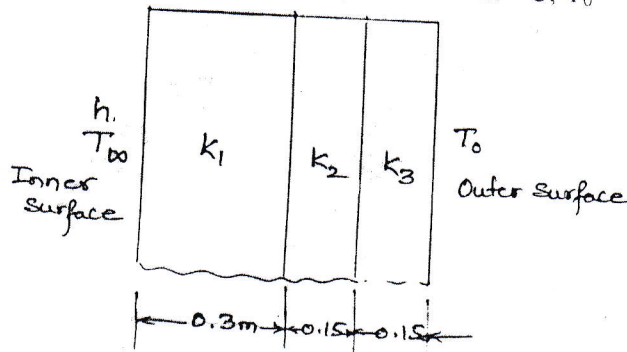

Fig Q8(b)
- b. Compute the temperature distribution in the composite wall Fig Q8(b), using 1D heat elements. Use penalty approach of handling boundary conditions. Data:  $K_1 = 20\text{ W/m}^\circ\text{C}$ ;  $K_2 = 30\text{ W/m}^\circ\text{C}$ ;  $K_3 = 50\text{ W/m}^\circ\text{C}$ ;  $T_\infty = 800^\circ\text{C}$ ;  $h = 25\text{ W/m}^2\text{ }^\circ\text{C}$ ,  $T_0 = 20^\circ\text{C}$ .